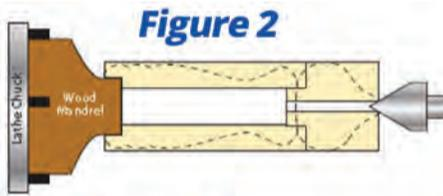

Figure 2
Mount a piece of hard wood in your lathe chuck and create a wooden mandrel that fits the base of the mill blank (see figure 2.)
2. Mount the blank between centers of the wooden mandrel and the live center (see figure 2). Tighten between centers and make sure that it is secured to turn safely.